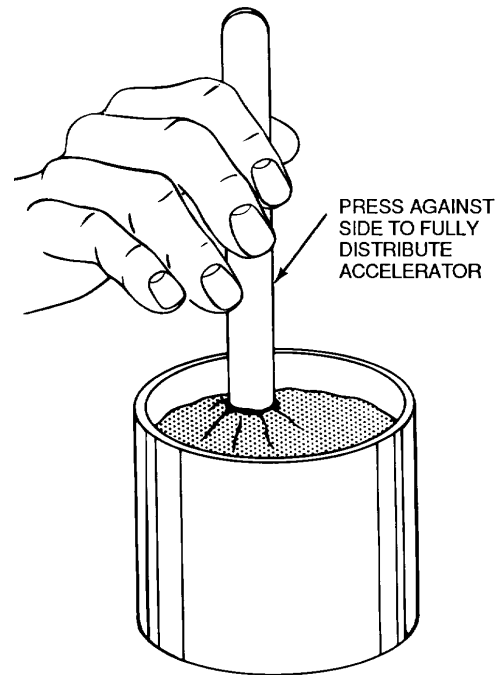

Figure 8. Hand Mixing Potting Compound
(1) Using a clean spatula, wooden tongue depressor, or putty knife, stir accelerator slowly into a smooth, creamy paste. Do not beat or whip; too much air could be trapped in compound. Continuously scrape sides, corners, and bottom of container to mix completely.
(2) Using clean spatula, wooden tongue depressor, or putty knife, stir base until it has a smooth texture. Do not beat or whip. Scrape sides, corners, and bottom of container.
(3) If base and accelerator are supplied in bulk, weigh out needed amounts of base and accelerator in separate containers.
(4) Combine accelerator and base. Thoroughly mix until no streaks or traces of unmixed material are visible. Mixing normally requires 5 to 8 minutes (Figure 8).
(3) If base and accelerator are supplied in bulk, mix 1 part (by weight) of accelerator with 10 parts (by weight) of base compound.
(4) Combine accelerator and base. Thoroughly mix until no streaks or traces of unmixed material are visible. Mixing normally requires 5 to 8 minutes (Figures 8 and 9).
(5) Determine if mixing is complete by spreading a drop of sealant very thinly on a piece of white paper. Close examination should not reveal any specks or streaks. Do not mix sealant beyond point where tests show thorough mixing.
(6) If mixed compound is not used immediately, store (paragraph 24).